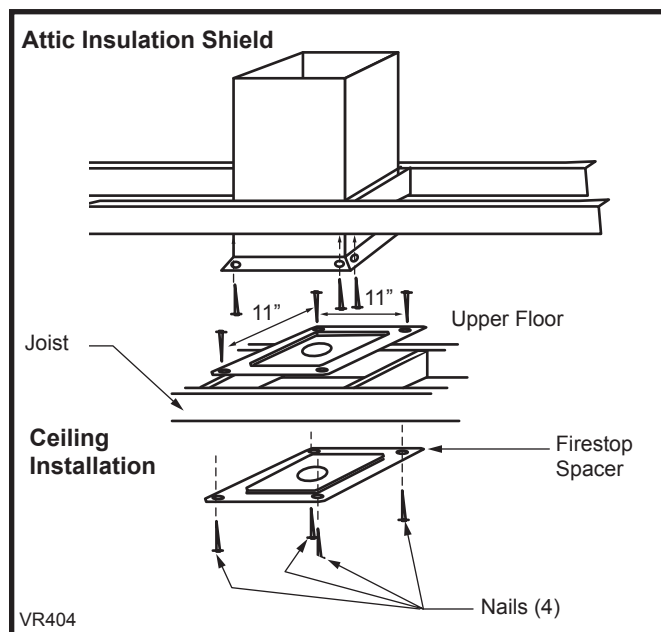

Fig. 43 Place firestop spacer(s) and secure.
5. Place firestop(s) #7DVFS into position and secure. (Fig. 43)